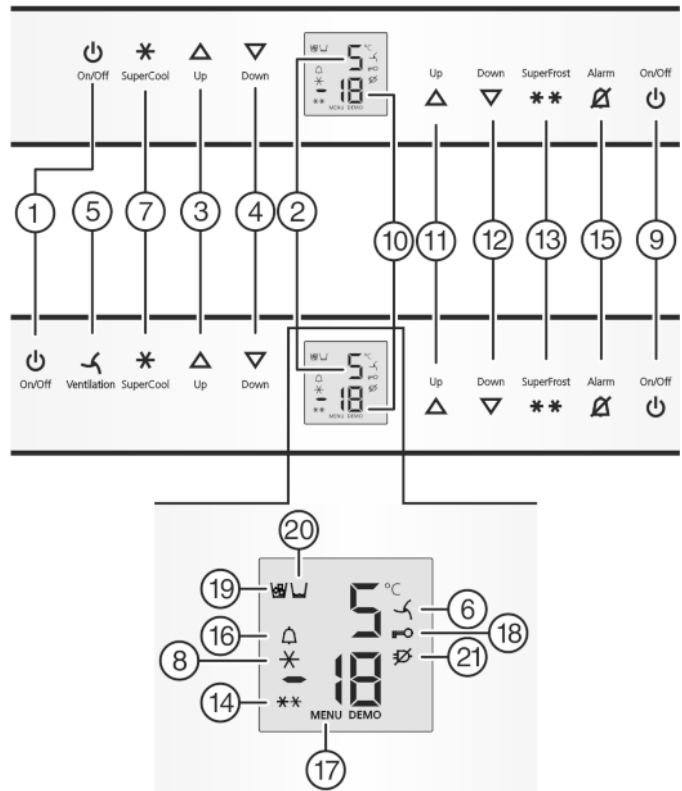

Fig. 2
- ▶ Press On/Off button, freezer compartment *Fig. 2 (9)*.
- ▶ Press On/Off button, refrigerator compartment *Fig. 2 (1)*.
- ▷ The fridge section is on: Fridge temperature display *Fig. 2 (2)* is on. When you open the door the interior light comes on.
- ▶ To activate the setting mode: press SuperFrost button *Fig. 2 (13)* for about 5 s.
- ▷ The menu symbol *Fig. 2 (17)* shines.
- ▶ Briefly press the SuperFrost button *Fig. 2 (13)* to confirm.
- ▶ To activate the child lock, briefly press the SuperFrost button *Fig. 2 (13)*.
- ▷ The child lock symbol *Fig. 2 (18)* shines. **c** flashes in the display.
- ▶ to deactivate the child lock, briefly press the SuperFrost button *Fig. 2 (13)*.
- ▷ The child lock symbol *Fig. 2 (18)* goes out. **c** flashes in the display.
- ▶ To deactivate the set-up mode: press On/Off button, freezer compartment *Fig. 2 (9)*.
- ▶ Press alarm button *Fig. 2 (15)*.
The temperature display and the alarm symbol *Fig. 2 (16)* flash at the same time.
The audible alarm is automatically silenced, the alarm symbol *Fig. 2 (16)* goes out and the temperature display stops flashing when the temperature is sufficiently cold again.